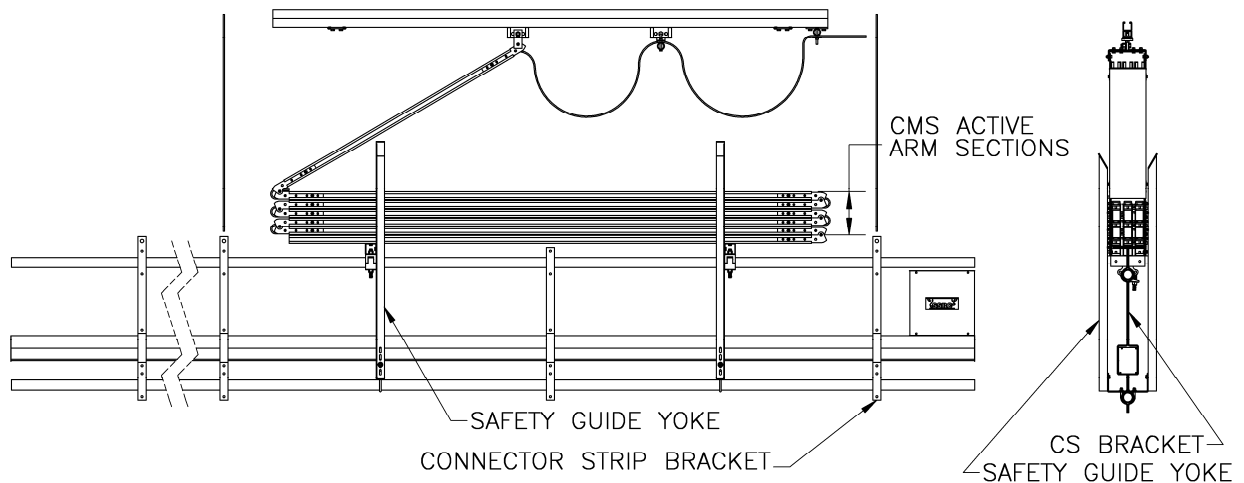

Figure 11. Double Pipe Batten with Safety Guide Yokes
If the CMS has five (5) or more active full length arm sections, then Safety Guide Yokes are required. See Figure 11. The Safety Guide Yokes maintain the alignment of the CMS arm sections as they stack up when the set is being raised. They also prevent further damage if the set is lowered onto an obstruction and the batten assembly rotates out of plumb.